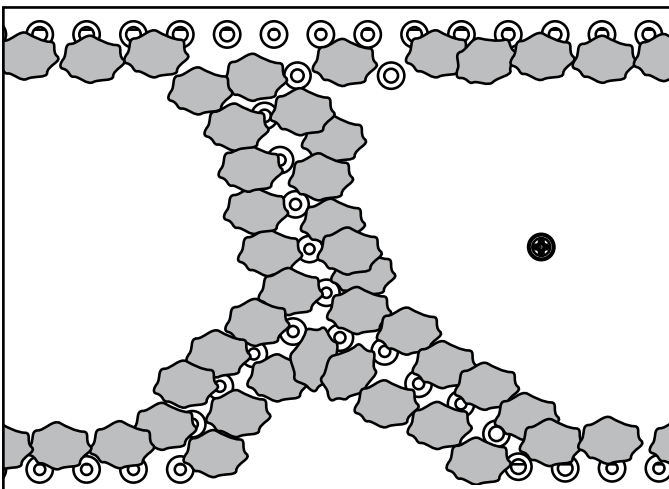

Figure 11.4 Embers Overlapping Burner Port Holes
- **Propane Only:** Using dime-size pieces of Glowing Embers®, overlap the burner ports as shown in Figure 11.4. The impingement created by the embers will help blend the fire.